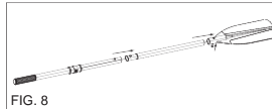

FIG. 8
- Connect the two shafts of the oars together; ensure the spring-loaded pins snap into position. (FIG. 8)